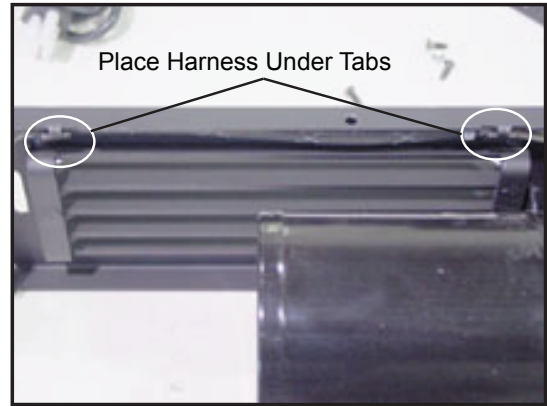

Figure 20.5
8. Using pliers, pry on the tabs that retain the harness enough to remove the harness. Do not disconnect the wires that go to the blower. Place the harness under the tabs on the left hand side of the convection housing and bend them down enough until they hold the harness. **Figure 20.5**